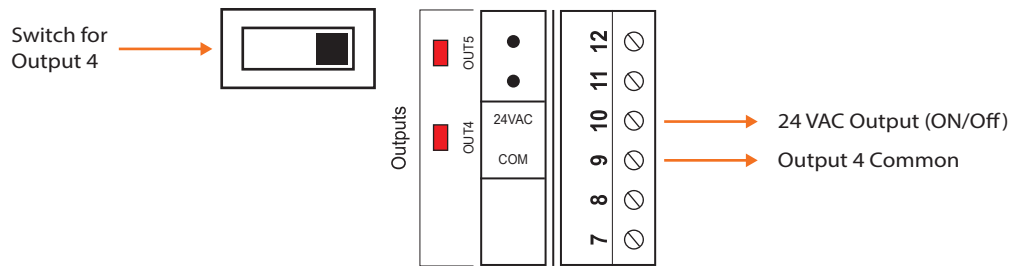

Figure 10 - Output in SOURCE mode
1) Switch position to obtain a SOURCE **active output** (see Figure 10):